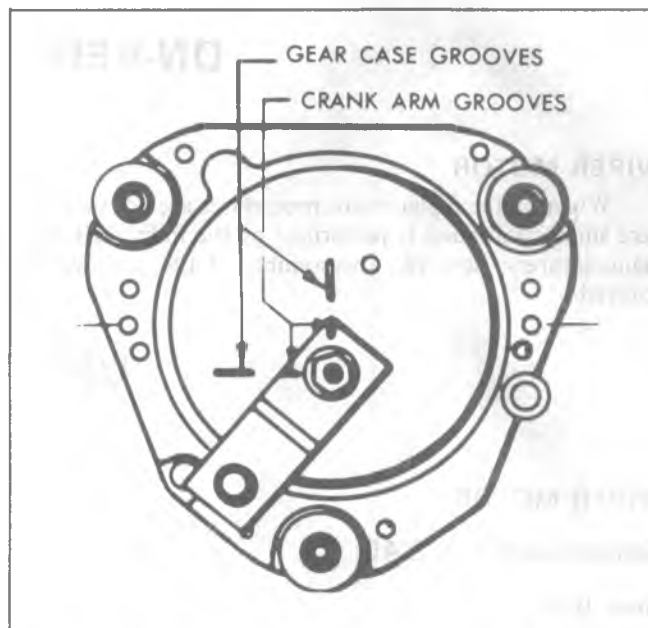

Fig. 8-47—Wiper Motor Crank Arm in Park Position
2. Place wiper in park position and install crank arm on output shaft, rotate crank so alignment marks line up with those on cover (fig. 8-47).